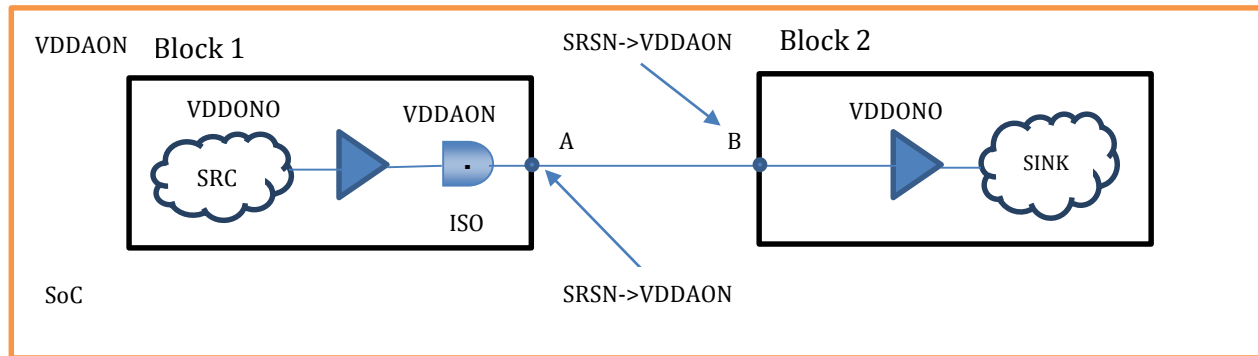

Figure 12. ISO\_INST\_REDUND (warning) reported in full hierarchical SoC-level run
1. In a Full Hierarchical SoC-level run reports an ISO\_INST\_REDUND for the below crossover, since the Source and the Sink for the crossover are both powered by VDDON0. During SPA generation at block-level, VC-LP generates an SPA with `-driver_supply VDDAON` for the output port Block1/A, due to the supply of the driving ISO cell – and an SPA with `-receiver_supply VDDON0` for the input port Block2/B, as seen in Figure 12.